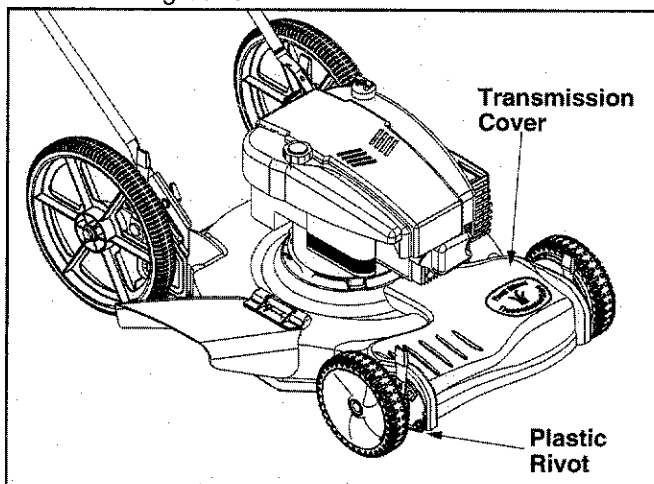

Figure 13
- Remove the transmission cover by sliding off the two plastic rivets with a screwdriver on each side of cover. See Figure 13.